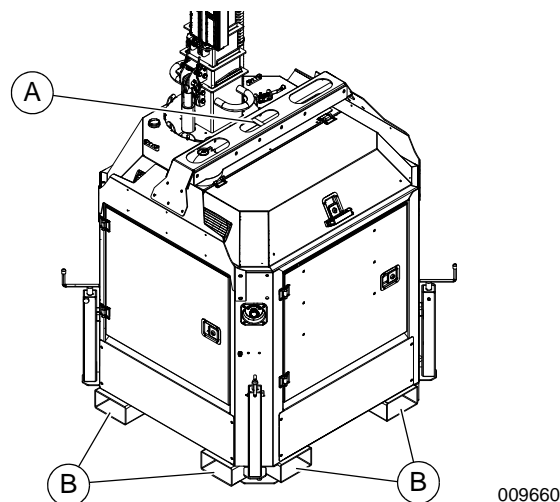

Figure 3-18. Travel Position, Lifting Points
See Figure 3-18. The unit is equipped with one emergency stop (E-stop) switch. The red button is clearly marked EMERGENCY STOP.
3. See Figure 3-18. Stow the mast and lights in the travel position, as shown.